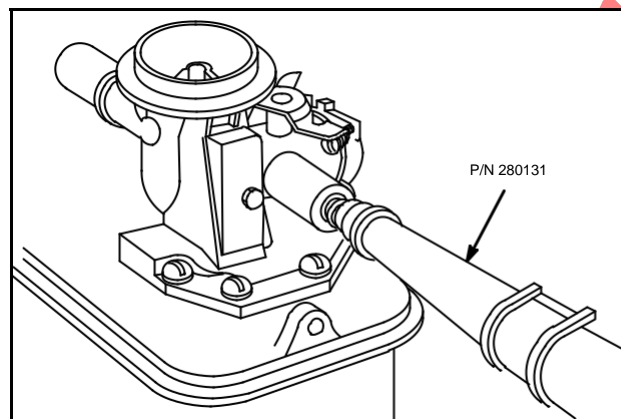

Fig. 169 - INSTALLING PRESSED-IN NEEDLE VALVE
5. Oil fill tube, Part #280131 will help firmly seat valve assembly, Fig. 169.